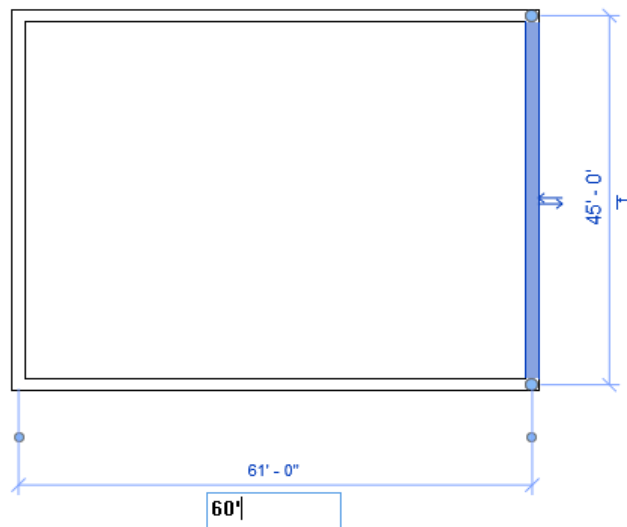

Figure 3-79 Entering horizontal dimension in the edit box
8. Click on the horizontal temporary dimension and enter **60'(18288 mm)** for the horizontal wall, as shown in Figure 3-79. Press ENTER.